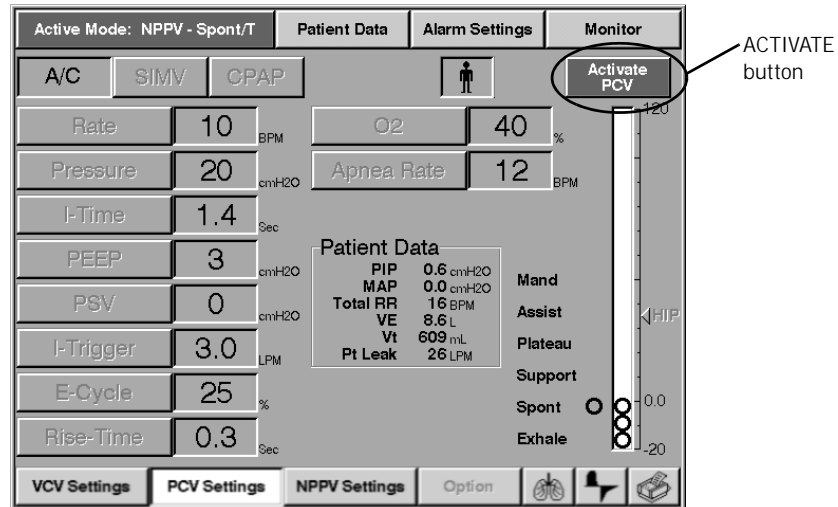
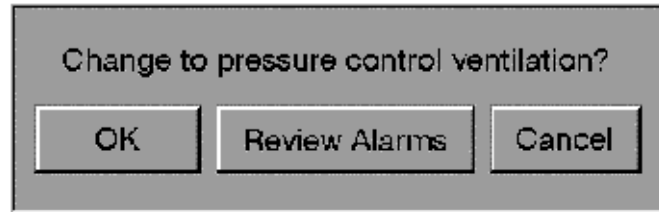

Figure 8-16: PCV Setting while NPPV is the active breath type
Figure 8-17: Change Breath Type Insert Window for PCV
- From the control settings screen, push the ACTIVATE button. Refer to Figure 8-16. The ventilator displays a prompt insert (Figure 8-17).